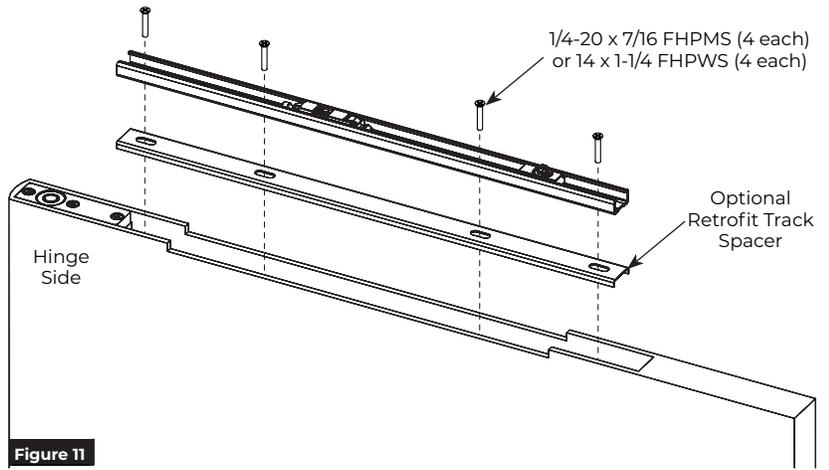

Figure 11
2. Install track into top of door using either four (4) 1/4-20 x 7/16" machine screws for metal doors or four (4) #14 x 1-1/4" wood screws for wood doors. (Figure 11).